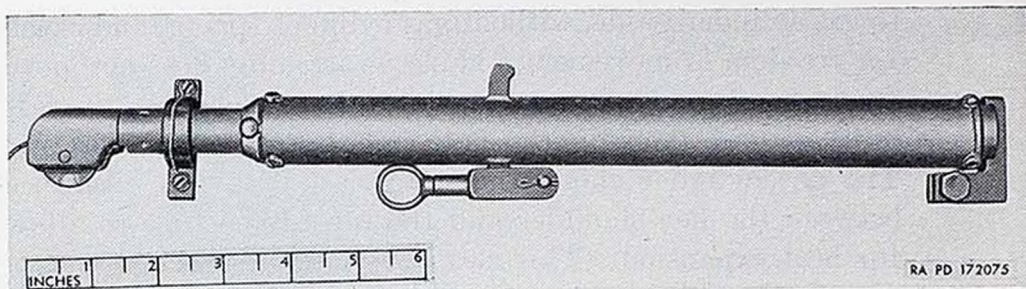

Figure 125. 20-mm manual charger M6—right-side view.
a. Removal. For removal of charger M6 (figs. 125 and 126) from gun, refer to paragraph 18a(3).